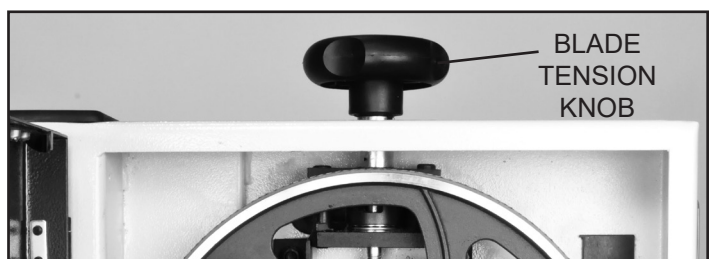

FIGURE 8
1. Place the Blade Tensioning Handle (#20) onto the Tension Rod end (#21) located at the top of the frame. FIG. 8.